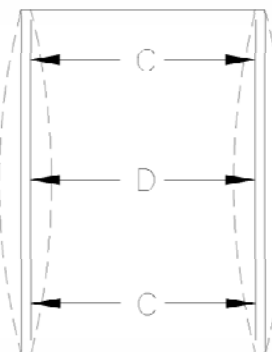

Fig. A-4
- ✓ Measure distance across head and sill (E=F) (Fig. A-4)